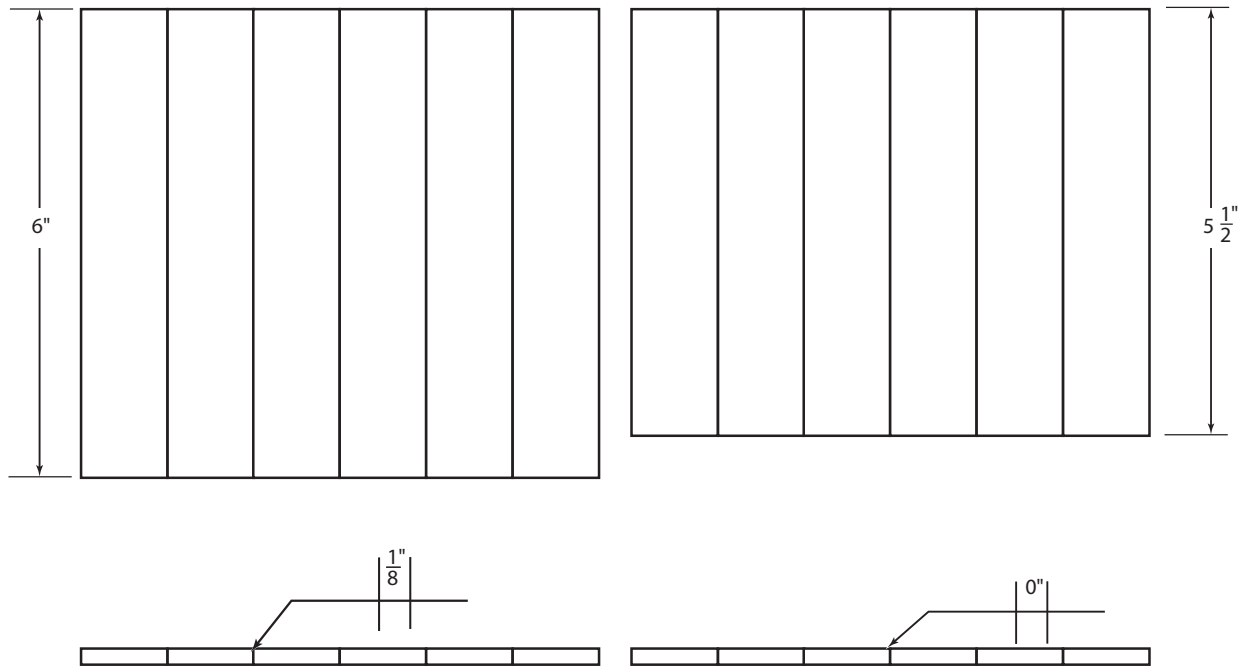

FIGURE 9-42 Project 9-4. © Cengage Learning 2012
Using a square, 12-in. rule and soapstone, lay out the bar stock as shown in the project drawing, Figure 9-42.
- Assemble and tack weld together six of the 5 1/2-in. long bars into a square flat plate with no root space, Figure 9-42.
- Assemble and tack weld together six of the 6-in. long bars into a square flat plate with a 1/8-in. root space, Figure 9-42.